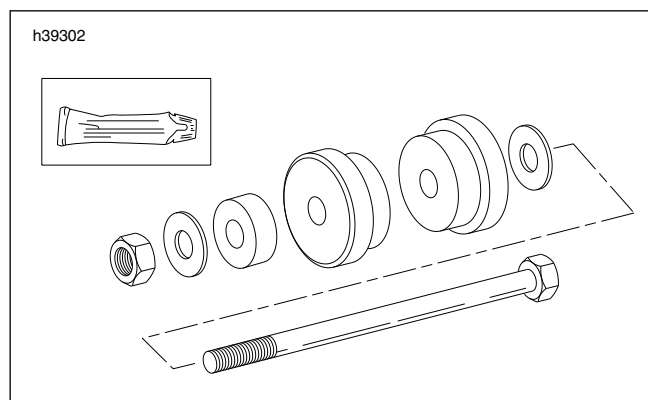

Figure 2-67. Steering Head Bearing Race Installer
1. See Figure 2-67. If removed, install **new** bearing cups into frame steering head using STEERING HEAD BEARING RACE INSTALLER (Part No. HD-39302).